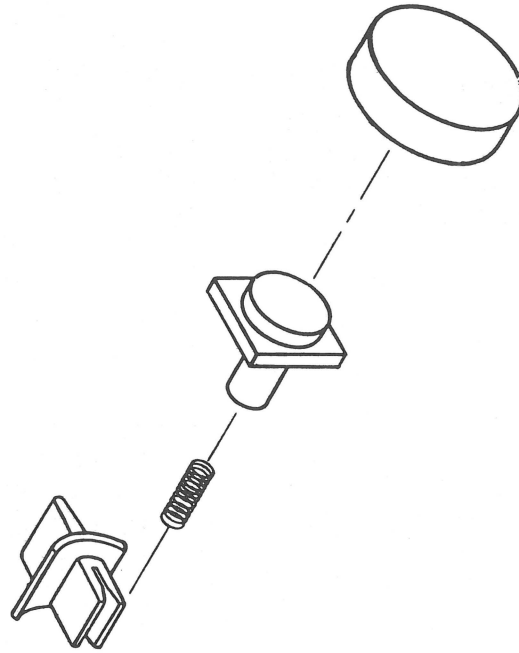

FIGURE 20
□ PLATEN KNOB ASSEMBLY (Figure 20)